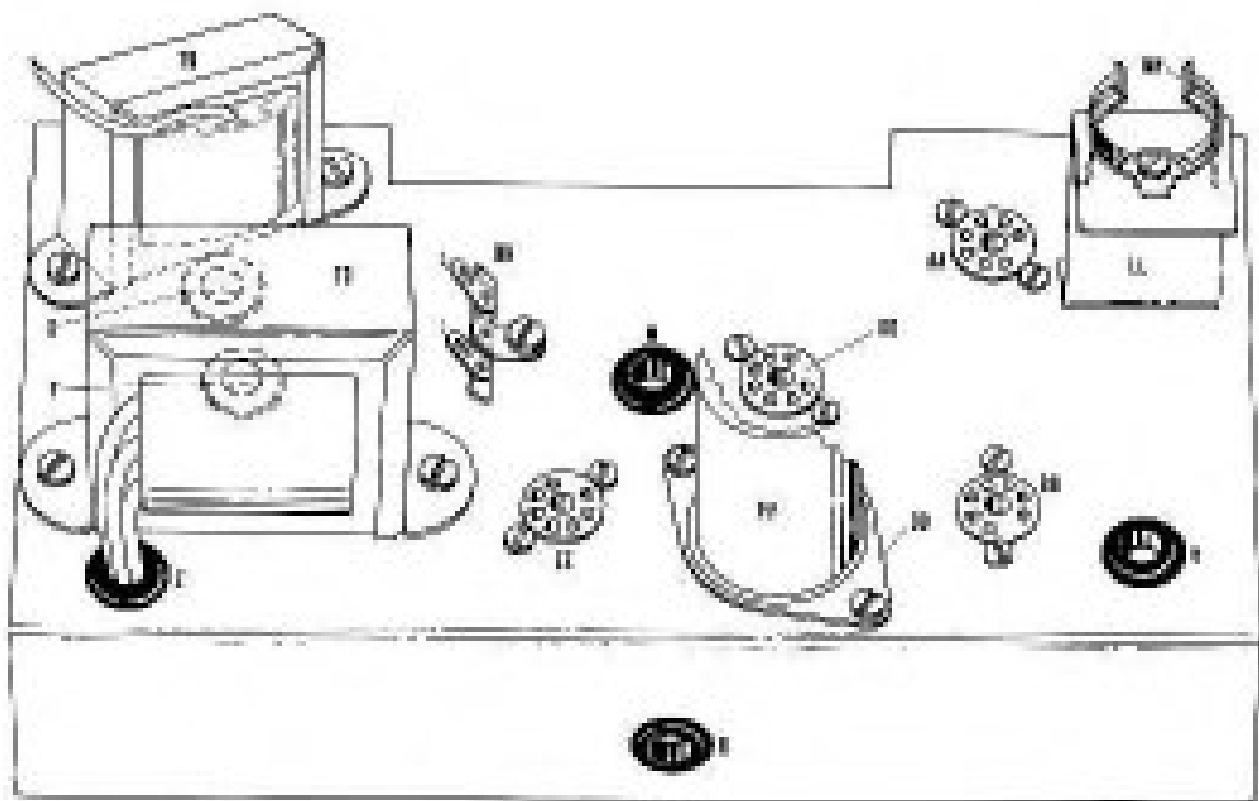
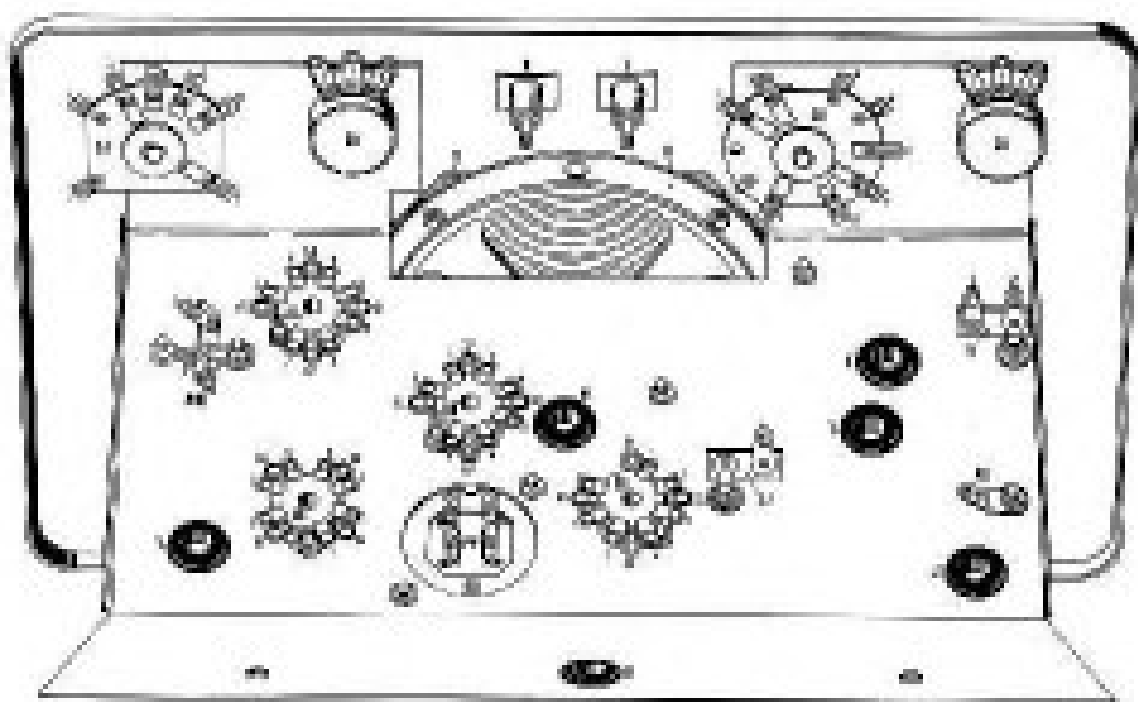

FIGURE 4
FIGURE 5
- () 19. Install a seven-pin miniature tube socket in hole at chassis location AA. Use two #4-40 x 1/4" BH screws, two #4 lockwashers, and two #4-40 hex nuts. Position socket as shown in Figure 4. Also see Figure 5. (NOTE: Do NOT bend socket terminals flat; the illustrations show them flat only for purposes of clarity.)
- () 20. In the same manner, install another seven-pin miniature tube socket in hole at chassis location BB. Use two #4-40 x 1/4" BH screws, two #4 lockwashers, and two #4-40 hex nuts. Position socket as shown in Figure 4. Also see Figure 5.
- () 21. In the same manner, install another seven-pin miniature tube socket in hole at chassis location DD. Use two #4-40 x 1/4" BH screws, two #6 lockwashers, and two #4-40 hex nuts. Position socket as shown in Figure 4. Also see Figure 5.
- () 22. In the same manner, install another seven-pin miniature tube socket in hole at chassis location DD. Use two #4-40 x 1/4" BH screws, two #6 lockwashers and two #4-40 hex nuts. Position socket as shown in Figure 4. Also see Figure 5.
- () 29. Insert the metal electrolytic capacitor PP from the top into mounting wafer slots. Position terminals as shown in Figure 5. Hold capacitor firmly in place and twist prongs with pliers to secure. See Figure 5. Solder the mounting lug without the hole to the mounting plate as shown in Figure 6.
REFER TO FIGURES 5 AND 7
- () 33. Install the SPEED GAIN control at location CA. Orient the control as shown in Figure 5. Use a control lockwasher, Bakelite panel washer, and control hex nut.
- () 34. Install the 1000 WATTS control at location CB. Orient the control as shown in Figure 5. Use a control lockwasher, Bakelite panel washer, and control hex nut.